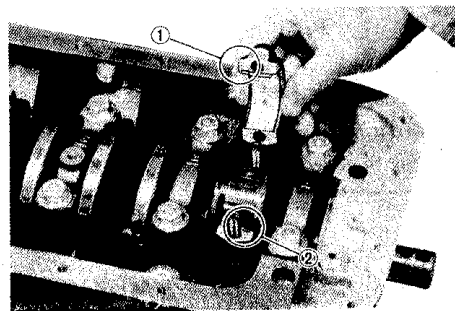

Fig. 3-113
Two stoppers (1) (2), Fig. 3-113 and 114, determine the position of bearing. At the time of installing these caps, be sure to locate stopper (1) of cap in the direction of stopper (2).